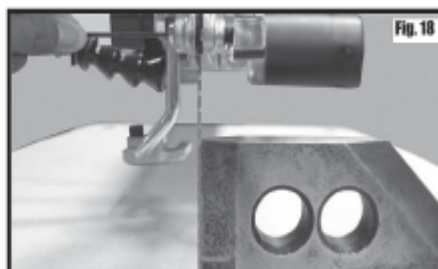

Fig. 18
3. Set a machinists square on the table and against the blade to verify the blade angle. (See Fig. 18)